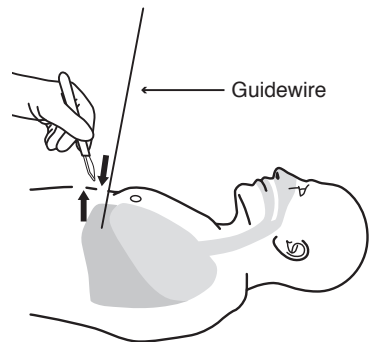

Fig. 3
12. Make an additional 1 cm incision approximately 5 cm inferior and either lateral or medial to the guidewire insertion site. This will be the catheter exit location. (Figure 3)